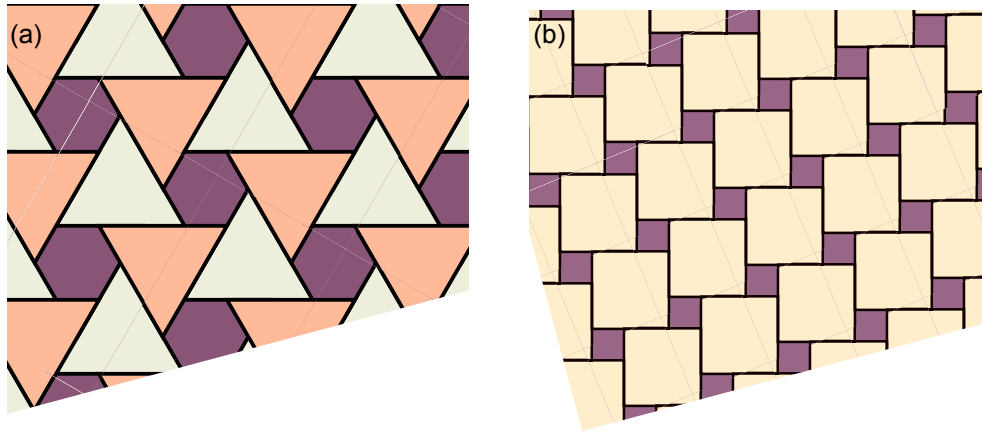

Figure 1.3: Periodic tiled patterns. From Baelde (Own work) [CC BY-SA 3.0 (<https://creativecommons.org/licenses/by-sa/3.0>) via Wikimedia Commons.
- 33) Fig. 1.3 shows two tiled patterns. In each, draw a 2D unit cell — the simplest repeat unit in these patterns. Note — there are more than one possible answers.